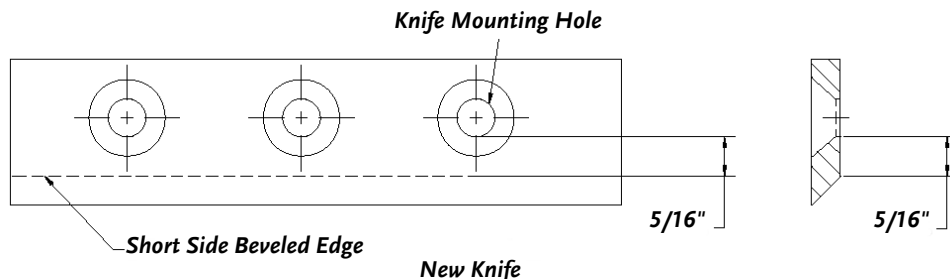

Figure 17
- A new Chipper Knife has $5/16$ " measurement between the short side bevel edge and the Knife mounting holes. See **Figure 17**.